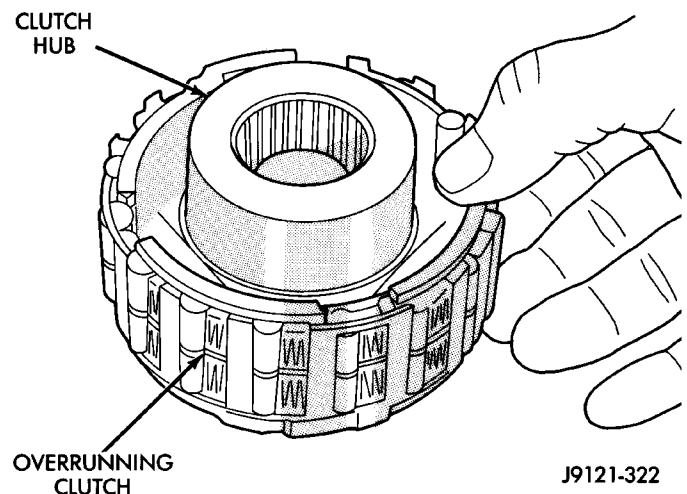

Fig. 218 Assembling Overrunning Clutch And Hub
(8) Install overrunning clutch on hub (Fig. 218). **Note that clutch only fits one way. Shoulder on clutch should seat in small recess at edge of hub.**
(9) Install thrust bearing on overrunning clutch hub. Use generous amount of petroleum jelly to hold bearing in place for installation. **Bearing fits one way only. Be sure bearing is seated squarely against hub. Reinstall bearing if it does not seat squarely.**